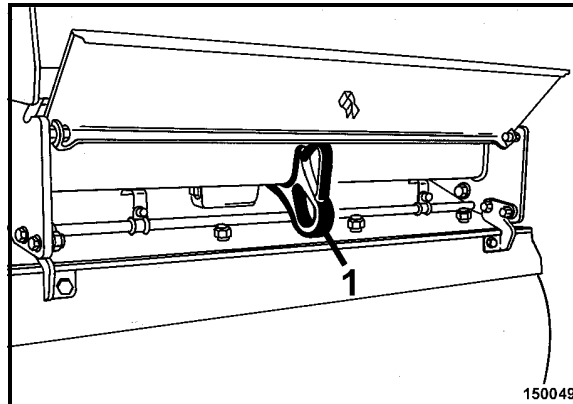

Fig. 98
- Tow the machine by the front or rear towing eye (1) (Fig. 98).